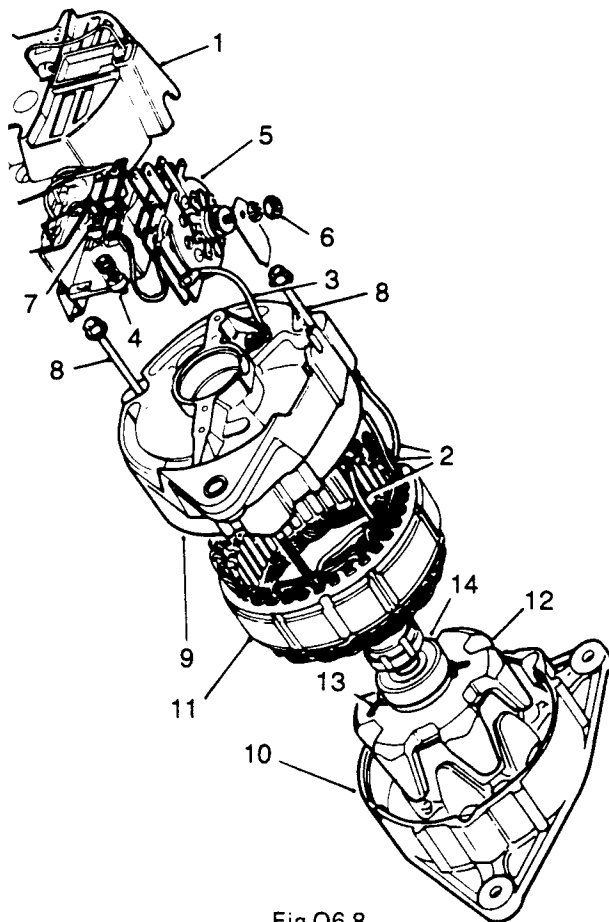

Fig O6.8
- (3) Refer to Fig O6.8. Replace the slip-ring moulding (14).
- (4) Resolder the field windings (13) to the slip-ring moulding.
- (5) Press the rotor shaft into the slip-ring end bearing.
- (6) Reconnect the rotor (12) to the drive end bracket, fitting the pulley, fan and shaft key.
- (7) Fit together the slip-ring end bracket (9), the drive end bracket (10) and the stator (11). Secure with the through bolts (8).
- (8) Replace the rectifier and tighten the securing nut (6).
- (9) Replace the brush box moulding and regulator assembly (5) and secure to the slip-ring end bracket with the three box head screws (4).
- (10) Reconnect the cables (3) to the rectifier plates in the position noted in paragraph 1, step (4).
(11) Using a thermal shunt and 25 watt soldering iron solder the stator winding connection (2) to the rectifier connecting pins. The positions of the connectors were noted in paragraph 1, step (2).
(12) Replace the moulded slip-ring end cover (1) and secure with the two retaining screws.
(13) Replace the alternator (see Sub-section O5, Chapter 1).